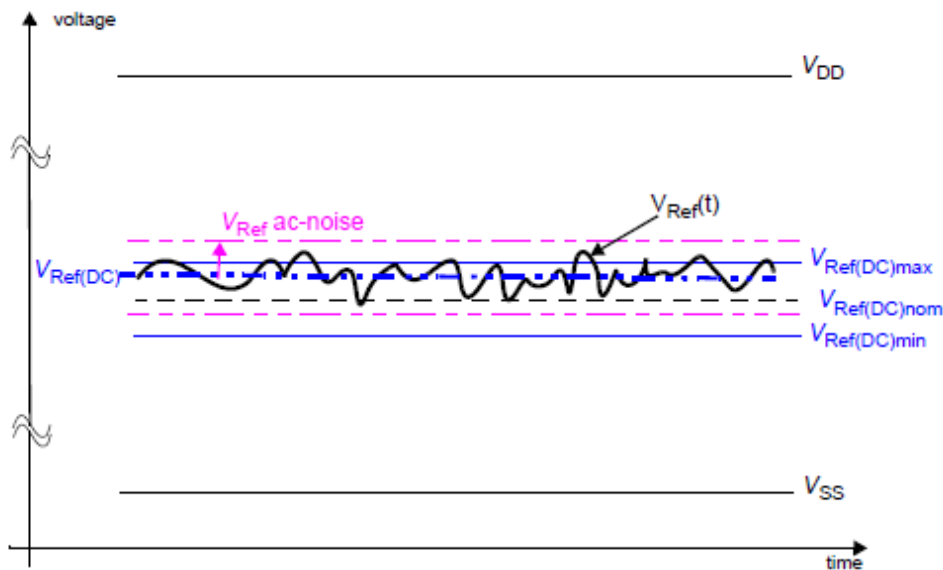

Figure 21 — Illustration of VREF(DC) Tolerance and VREF AC-noise Limits
The dc-tolerance limits and ac-noise limits for the reference voltages VREFCA and VREFDQ are illustrated in Figure 21. It shows a valid reference voltage VREF(t) as a function of time. (VREF stands for VREFCA and VREFDQ likewise).
The voltage levels for setup and hold time measurements VIH(AC), VIH(DC), VIL(AC) and VIL(DC) are dependent on VREF. “VREF “ shall be understood as VREF(DC), as defined in Figure 21.